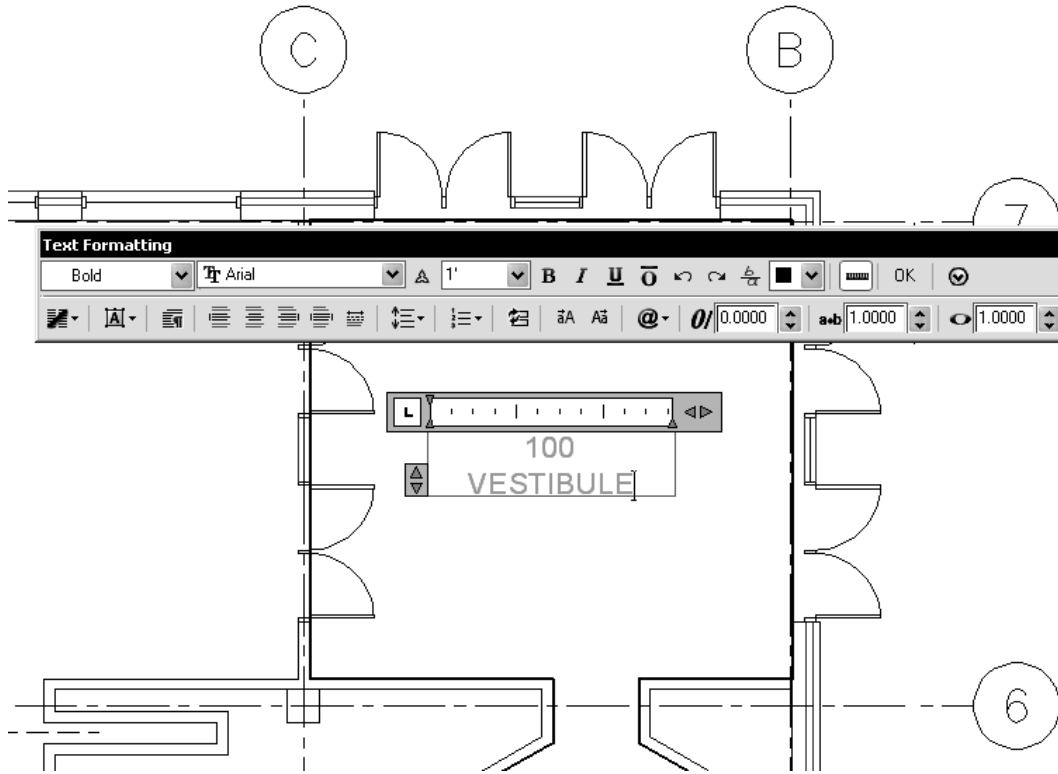

Figure 3-4.3 Adding vestibule number and name
9. Add the text to the Vestibule as shown (as Mtext) in Figure 3-4.3, *plus*: